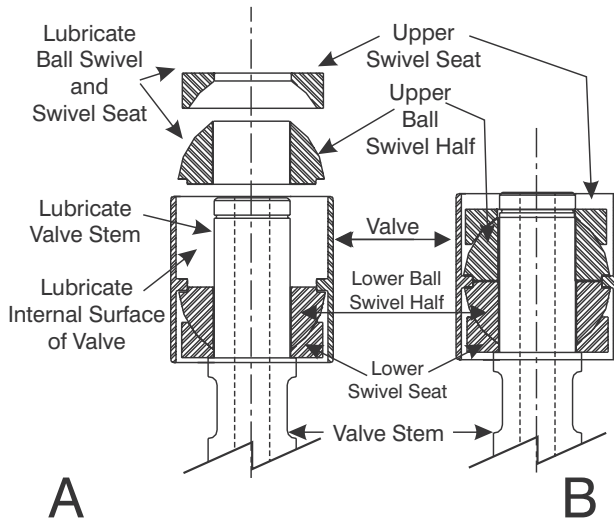

Figure 9-11. Valve Position on Valve Stem
10. Refer to Figure 9-11-A. Lubricate the inside of the Valve and the exterior of the upper Ball Swivel half and Swivel Seat.
11. Install the upper Ball Swivel (6) half onto the Valve Stem (8) inside the Valve
(7). Slide the Swivel half into the Valve until it touches the internal shoulder of the Valve, as shown in Figure 9-11-B.